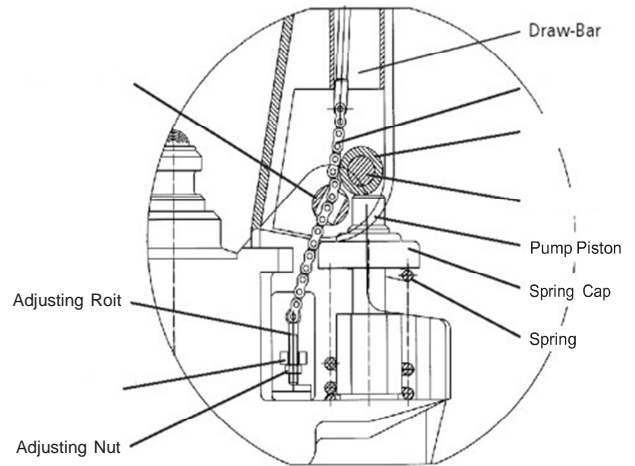

Fig. 7: Side view (symbolic)
- Set the control lever of the handle to the 'LOWER' position, then pass the adjusting nut, adjusting bolt through the hole of the axle with your hand (Fig. 7).